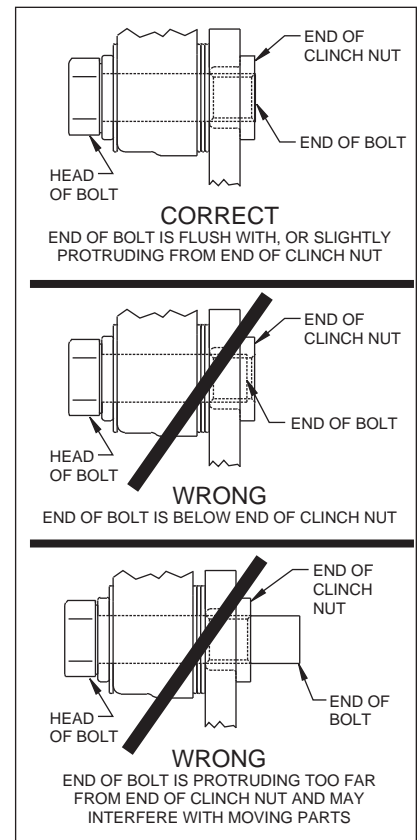

Figure 4. Clinch Nut Engagement Diagram
- NOTE:** Please reference the caution statement at the beginning of the assembly instructions. Mount the caliper (8) onto the caliper mounting bracket (1) using two bolts (9) and two washers (10). View the rotor (4) through the top of the caliper (8). The rotor (4) should be aligned in the center of the caliper (8). If not, loosen the two bolts (9) and adjust the caliper (8) by using 0.035 inch thick shim washers (11). The shim washers (11) should be placed between the caliper (8) and the caliper mounting bracket (1). Finger tighten and recheck alignment. Add as many shim washers (11) as necessary to achieve the correct alignment. **NOTE:** The end of the bolt must be flush with or slightly protruding from the head of the clinch nut. See Figure 4. Place spare shims (11) between washer and caliper mounting ear to achieve the proper mounting fastener configuration. Always use the same amount of shims on both the top and bottom caliper mounting bolts (9). Loosen the two bolts (9) and apply red *Loctite*® 271 to bolt threads (9) and torque to 40 ft-lb.
- Position the Wilwood disc brake pads (12) into the caliper (8) and secure with cotter pin (13). Steel backing plate side of brake pad should face the caliper pistons.